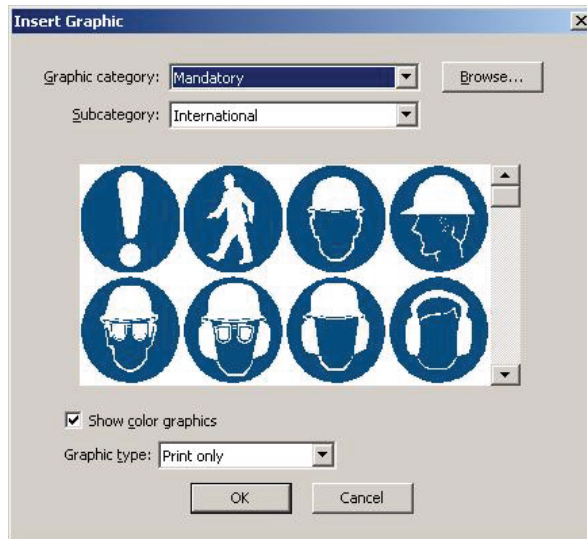

Figure 8-1. Insert Graphic Dialog Box
1. On the *Draw* toolbar, select **Draw>Insert Graphic** or click . The *Insert Graphic* dialog box (Figure 8-1. *Insert Graphic Dialog Box*) displays.